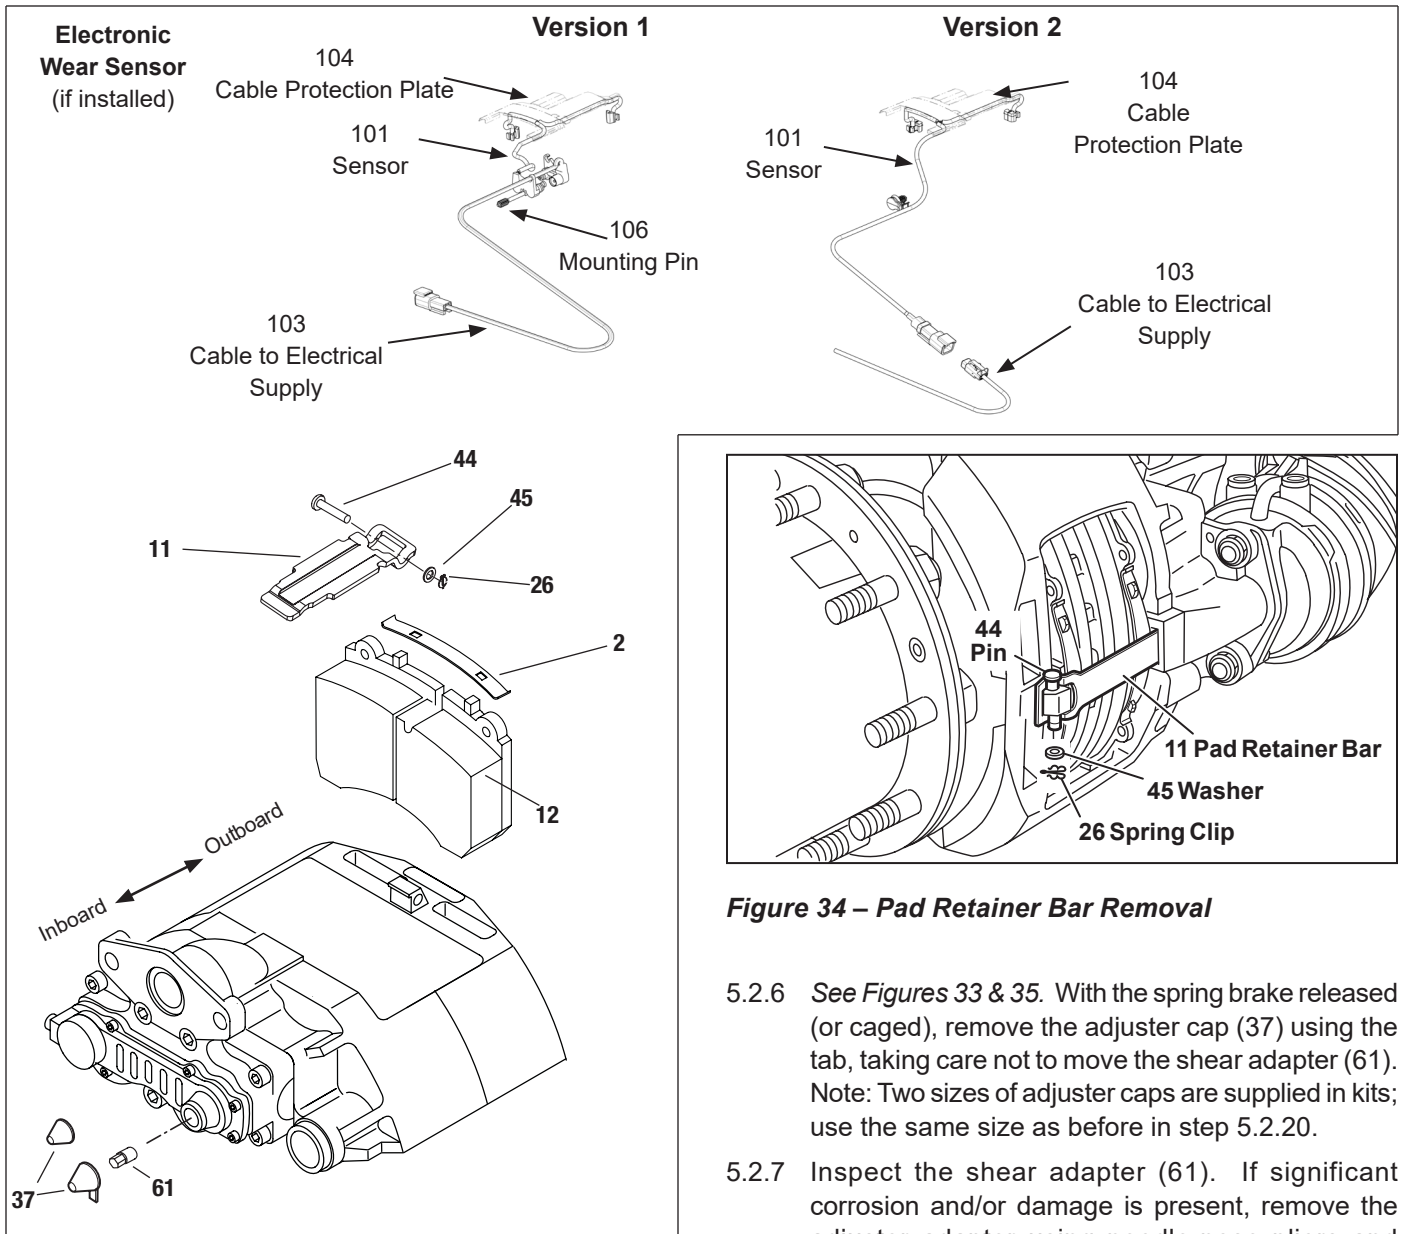

Figure 33 – Pad Replacement
- 5.2.3 If the air disc brake is equipped with an electronic wear sensor indicator (see top of Figure 33), note how the wire is installed in the wire shield then remove and discard the wire shield. Disconnect the wear sensing harness from the jumper harness before removing the pads. The wear sensing harness and wire shield will be replaced with the brake pads.
- 5.2.6 See Figures 33 & 35. With the spring brake released (or caged), remove the adjuster cap (37) using the tab, taking care not to move the shear adapter (61). Note: Two sizes of adjuster caps are supplied in kits; use the same size as before in step 5.2.20.
- 5.2.21 Push the new pad retainer bar (11) into the groove of the caliper. Press down on the pad retainer bar, and insert the pad retainer pin (44), with the pin pointing downwards, where possible. (See Figure 33.) Install the supplied washer (45) and then the spring clip (26).